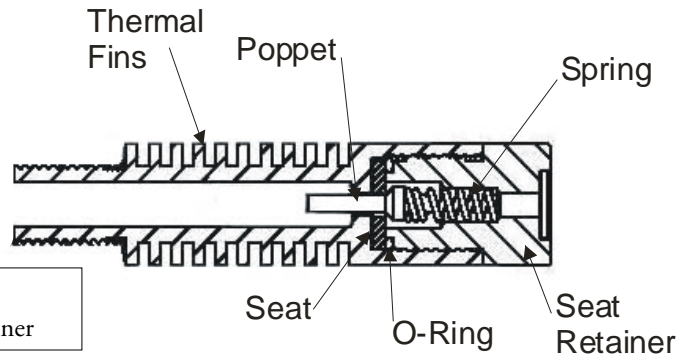

Figure 9
7. Remove the seat retainer, spring and poppet (Figure 9).